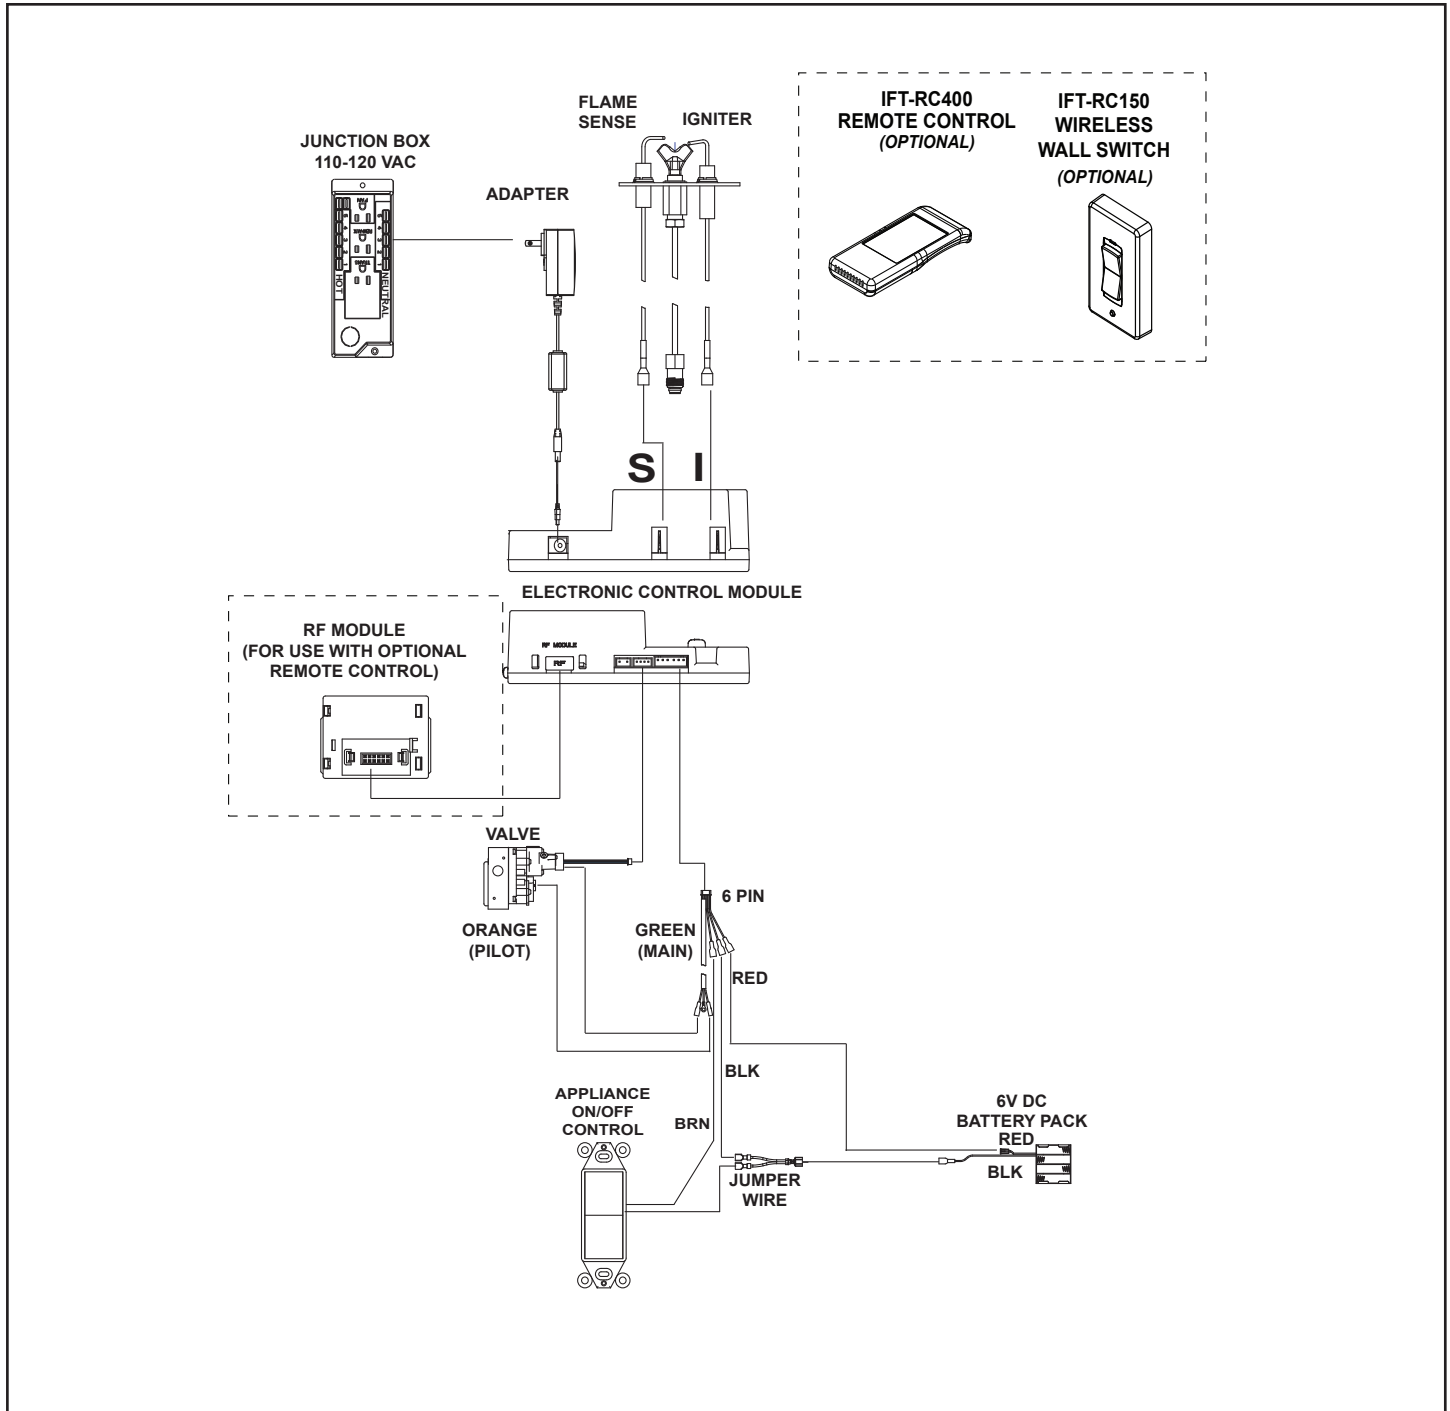

Figure 8.2 IntelliFire Touch Ignition System Wiring Diagram
- Refer to Figure 8.2 IntelliFire Touch (IPI) Wiring Diagram.